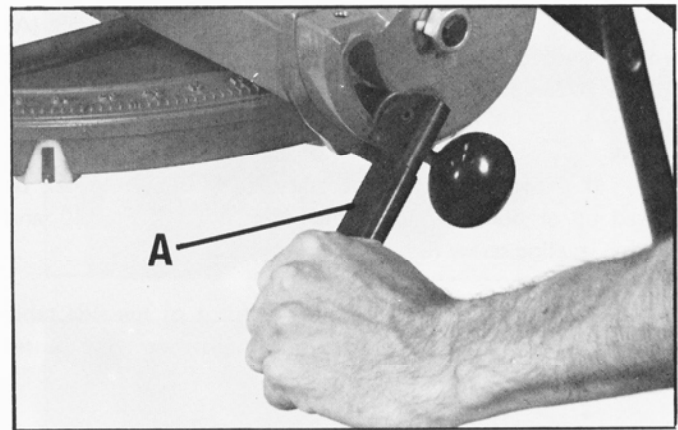

Fig. 35
When the bevel clamp handle (A) is in the down position, as shown in Fig. 35, the track arm can be clamped at any angle from 0 to 45 degrees to the left.